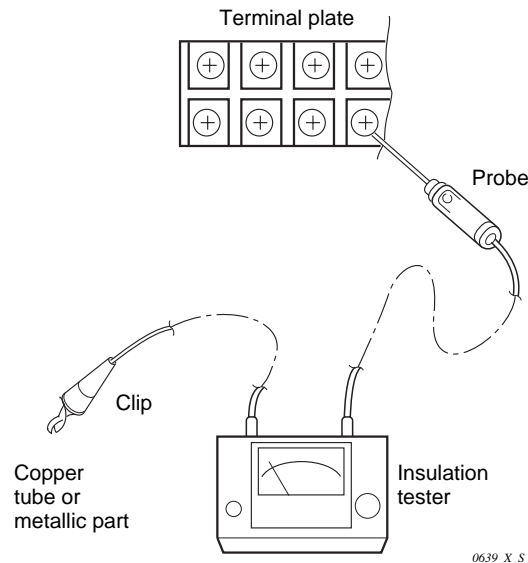

Fig. 17
Clamp an aluminum plate fin or copper tube with the lead clip of the insulation resistance tester and measure the resistance by placing a probe on the terminal plate (Fig. 17)
Measure the resistance by placing a probe on the terminal plate in the same manner as explained above ②. (Fig. 17)